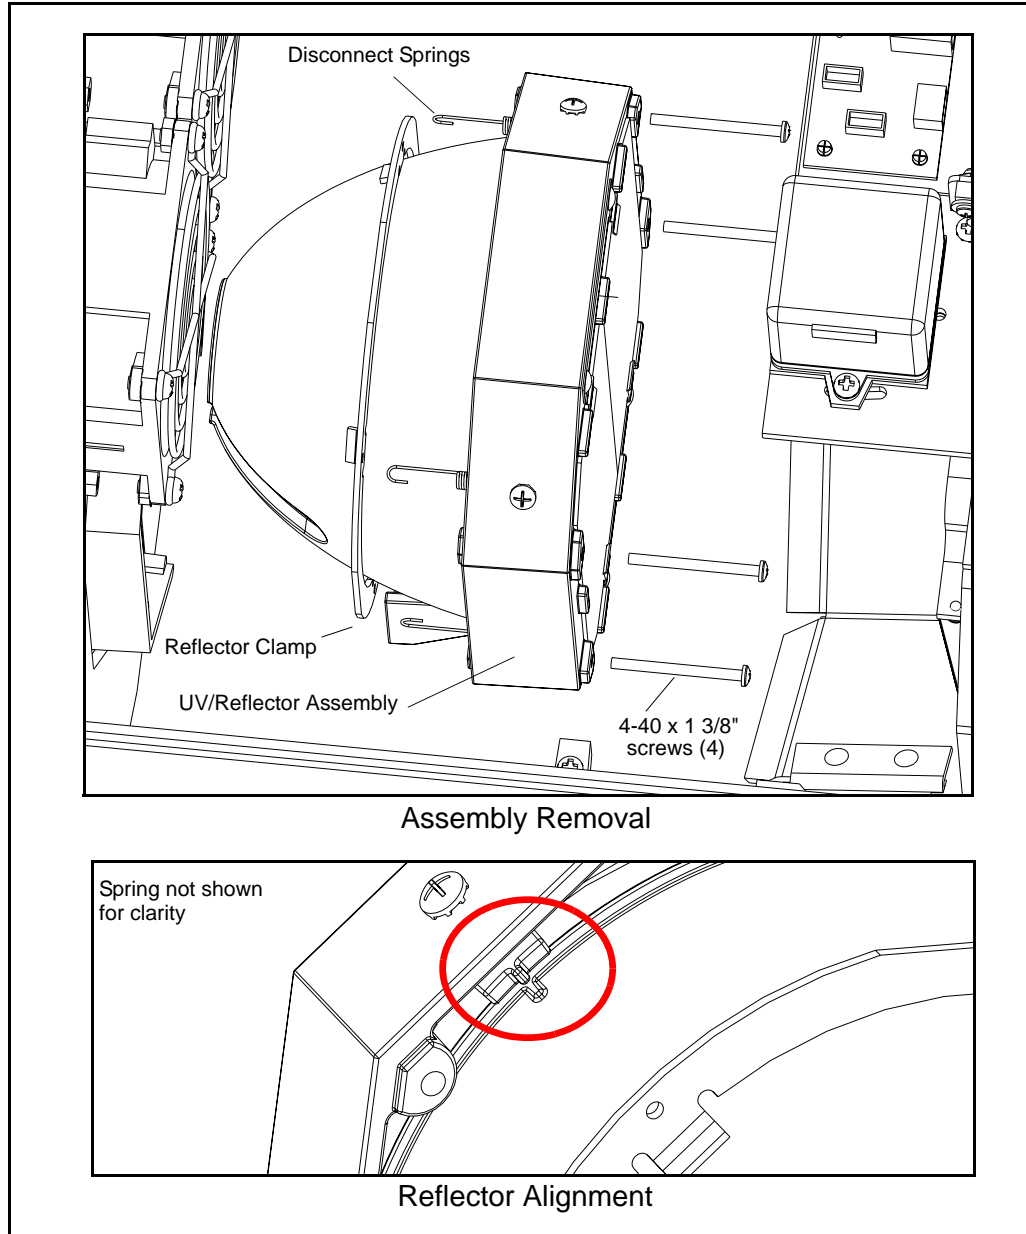

Figure 2-10: Reflector / UV Glass Assembly Removal
Step 5. As shown in Figure 2-10, remove four 4-40 x 1 3/8" PPZ screws.
Note: Make sure the mark on the reflector lines up with the mark on the top-left reflector support; see "Reflector Alignment" illustration in Figure 2-10.